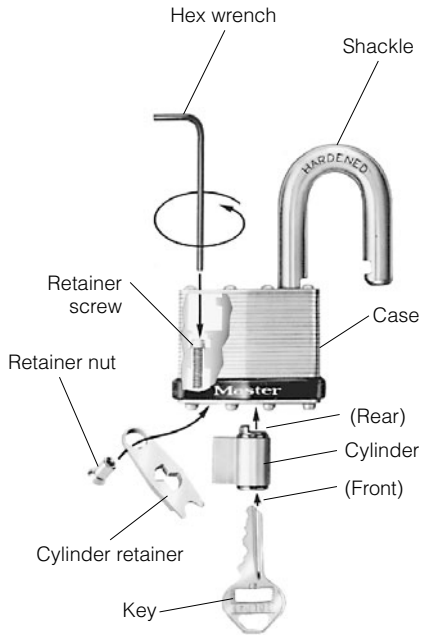

Figure 12.13 Exploded view of a laminated Master padlock. (Master Lock Company)
1. Unlock the padlock and remove the key (Fig. 12.13). Turn the shackle away from its opening. *Note:* If rekeying WO (without cylinder) padlocks, use a screwdriver to open the shackle. Insert the tip of the screwdriver through the opening in the bottom plate. Turn the mechanism as shown to trip the shackle release. (For Pro Series 6000 locks simply pull up on the shackle. Cylinder extension and ball bearings are included in a separate polybag.)